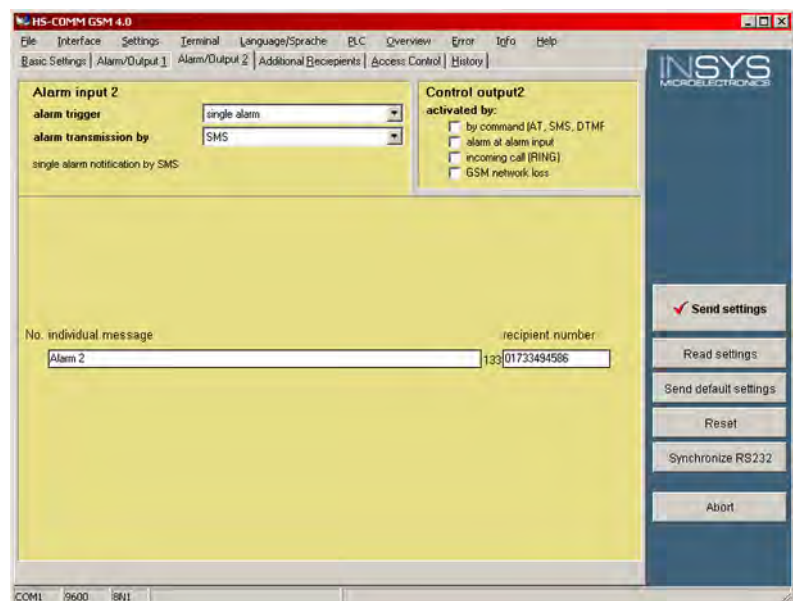

Fig. 182: GSM modem - alarm/output 2
3. ➤ Set up the modem as shown in (Fig. 182) on the “Alarm/Output 2” tab.